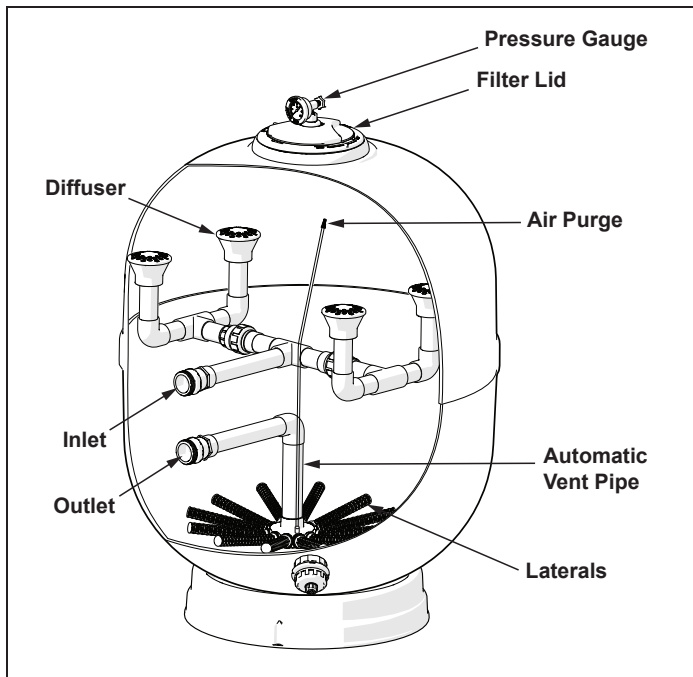

Figure 6. Automatic Air Relief
9. Check to ensure the vent tubing is appropriately positioned in the tank. See Figure 6.